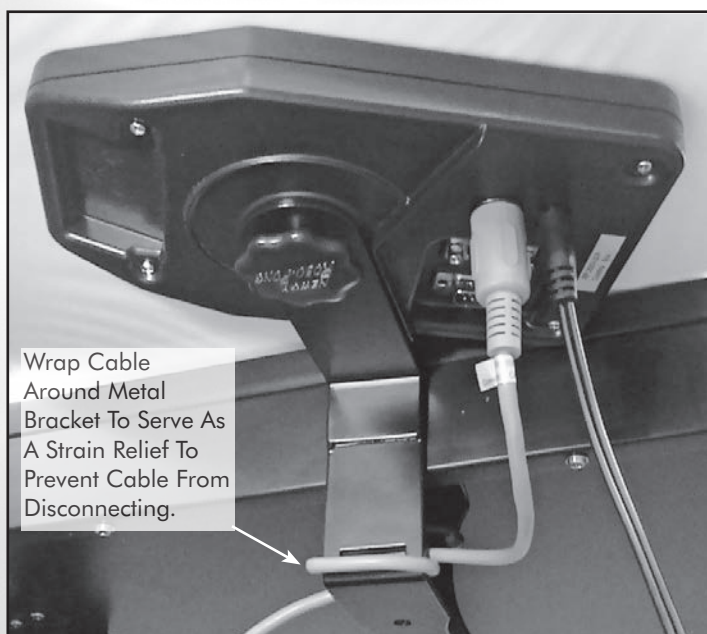

FIGURE 20
1. When attaching the Connector Cable to the bottom of the Control Box, wrap the cable around the metal Control Box Mounting Bracket as illustrated in Figure 20. This serves as a strain relief for the cable to prevent the cable from being pulled loose. Failure to follow this suggestion may result in erratic behavior from the robot and/or complete disconnection between the Control Box and the robot.